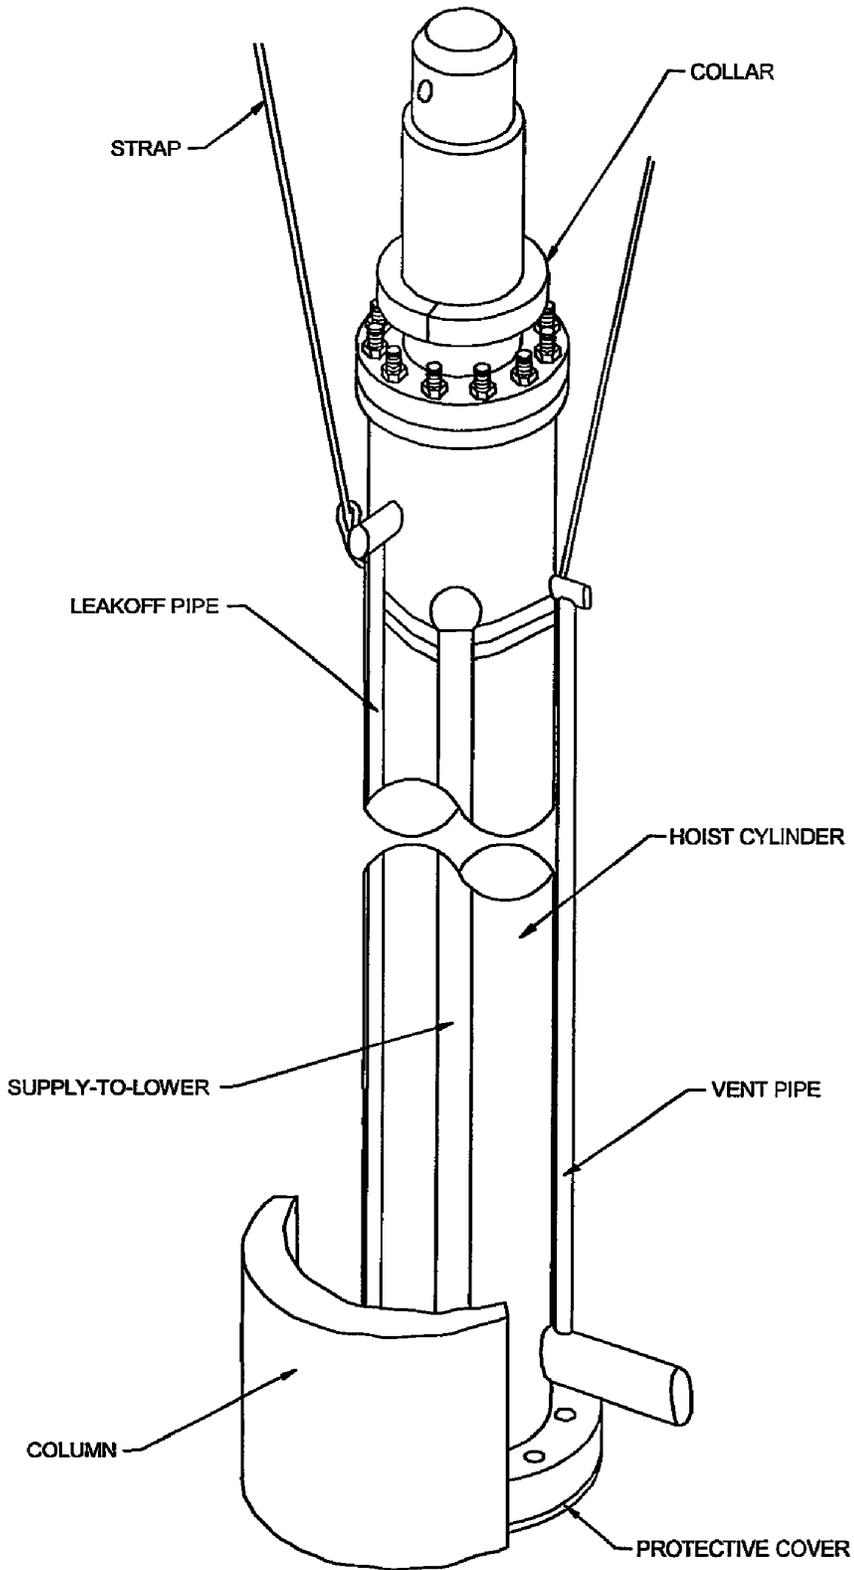

Figure 4-9 Installation of Hoist Cylinder Lifting Straps
- d. Attach one lifting strap around the top of the hoist cylinder routed beneath the supply-to-lower, leakoff, and/or vent pipes, i.e., the strap is placed between the pipes and hoist cylinder. Route one end of the strap through the loop and cinch-up. See Figure 4-9.